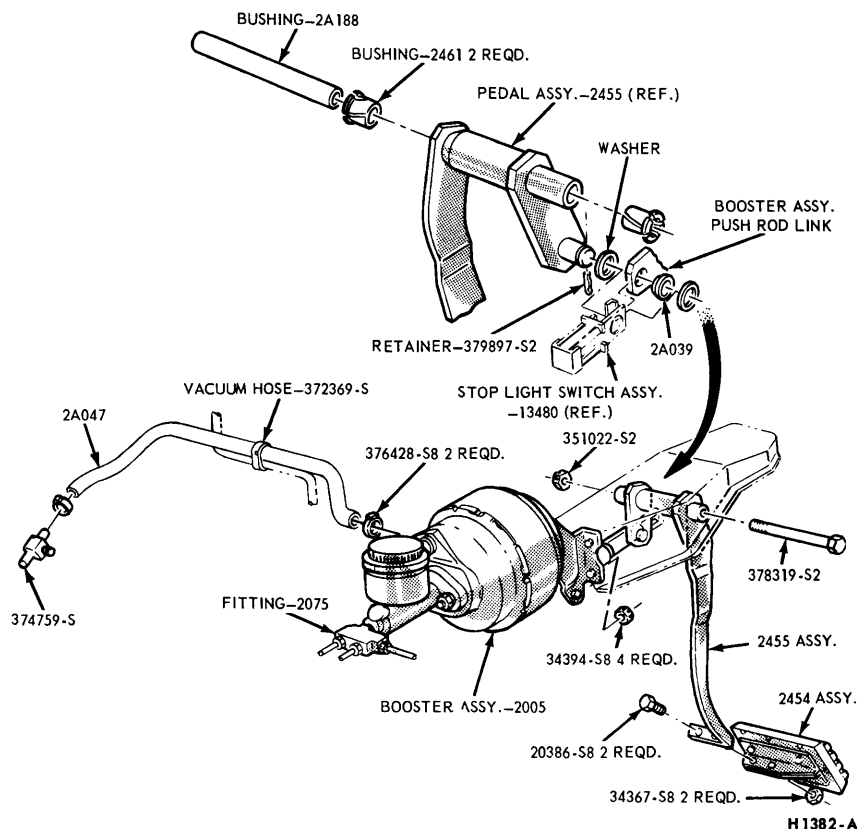

FIG. 21—Brake Booster and Pedal Installation
Disconnect the stop light switch wires at the connector. Remove the hairpin retainer. Slide the stop light switch off from the brake pedal **just far enough for the switch outer hole to clear the pin**, and then lift switch straight **upward** from the pin. Slide the master cylinder push rod and the nylon washer and bushing off from the brake pedal pin (Fig. 21).
engine side of the dash panel (Fig. 21).
1. Mount the booster and bracket assembly to the dash panel by sliding the bracket mounting studs and the push rod link in through the holes in the dash panel (Fig. 21).
the pedal pin and the switch outer hole just clearing the pin. Slide the switch completely onto the pin. Install the outer nylon washer as shown in Fig. 21. Secure these parts to the pin with the hairpin retainer. Connect the stop light switch wires to the connector, and install the wires in the retaining clip.
Slide the stop light switch off from the brake pedal pin **just far enough for the switch outer hole to clear the pin**, and then lift the switch straight **upward** from the pin. Slide the master cylinder push rod and the nylon washers and bushing off from the brake pedal pin (Fig. 21).
1. Apply a coating of Lubriplate to the bushings and locate all the bushings in their proper places on the pedal assembly (Fig. 21).
the bushing on the brake pedal pin. Position the switch so that it straddles the push rod with the switch slot on the pedal pin and the switch outer hole just clearing the pin. Slide the switch completely onto the pin, install the outer nylon washer as shown in Fig. 21. Secure these parts to the pin with the hairpin retainer.